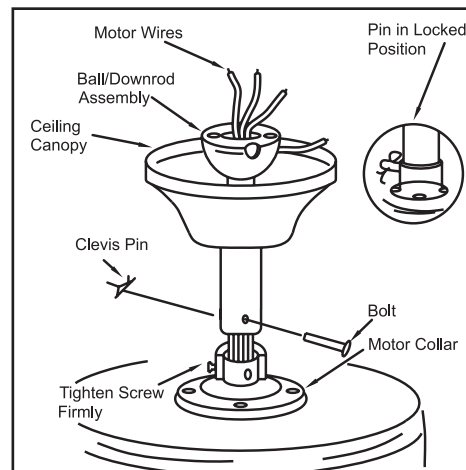

Figure 6
2. Route the wires exiting the top of the fan motor through the canopy and then through the ball/downrod assembly (Figure 6).
4. Align the holes at the bottom of the downrod with the holes in the collar on top of the motor housing (Figure 6). Carefully insert the bolt through the holes in the collar and downrod. Be careful not to jam the bolt against the wiring inside the downrod. Insert the
clevis pin and bend to ensure security, as noted in circle the inset of Figure 6.
5. Tighten the two screws on top of the fan motor firmly (Figure 6).